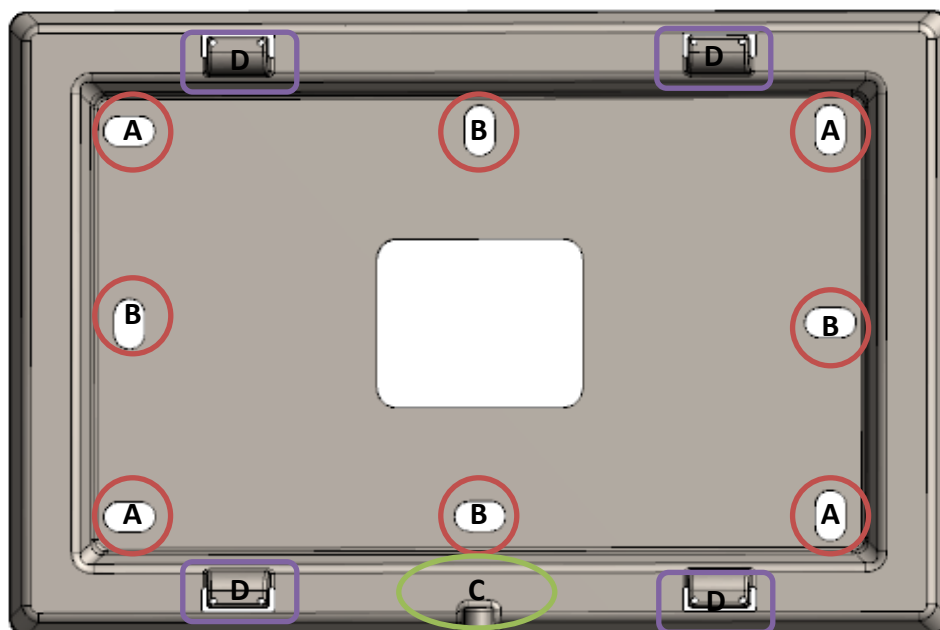
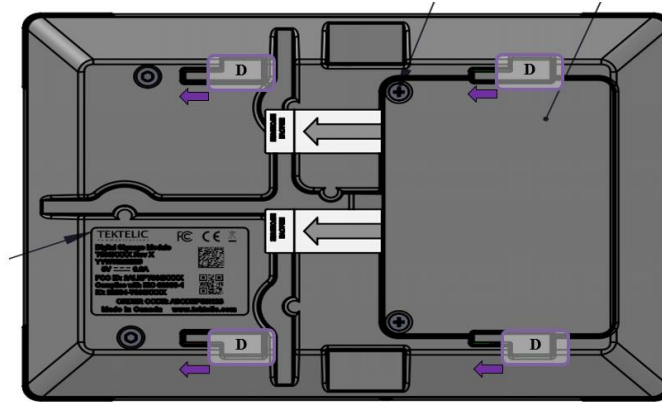

Figure 2-3: Wall mount plate.
Figure 2-4: Tablet back side
- Thread the Ethernet and/or Power cables through the rectangular opening in the wall plate. Ensure that the lock screw feature marked as "C" in Figure 2-3. is facing away from the mounting surface.
- Secure the mount plate on the mounting surface using 4 x M4 screws in locations A or B as shown in in Figure 2-3.
- To install the Tablet, first align the hooks on the mounting plate to the slots on the back of the Tablet (See features marked as “D” in Figure 2-3 and Figure 2-4), then push the Tablet onto the plate. Slide the Tablet to fix the Tablet in place.